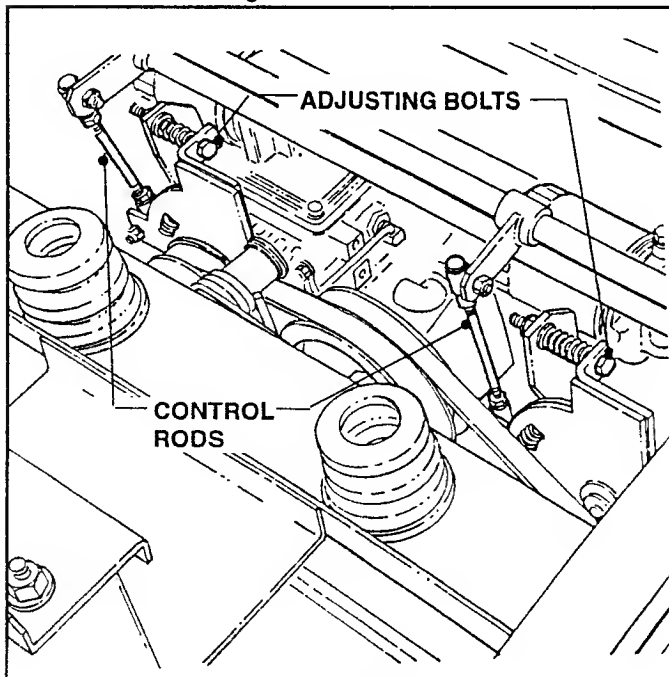

FIGURE 5.4
- f) If wheel(s) are rotating, disconnect Transmission Control Rods from Cross Shaft and turn Adjusting Bolts, located on Pump(s), clockwise, or counterclockwise, until rotation stops. See Figure 5.4.